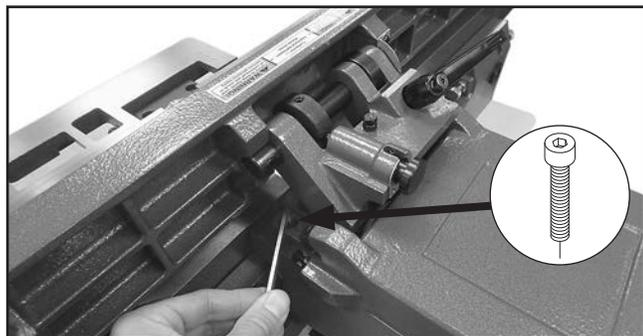

Figure 23. Loosening front cap screw on key.
13. Loosen (3) M6-1 x 12 cap screws that secure fence key, as shown in **Figures 23–24**, adjust fence side to side until it is aligned with front of tables, then tighten cap screws.